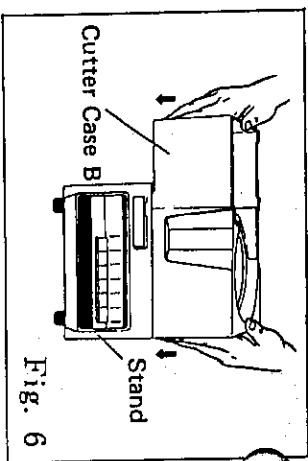

Fig. 6
- 1) Place Cutter Case B on top of the stand (Fig. 6).